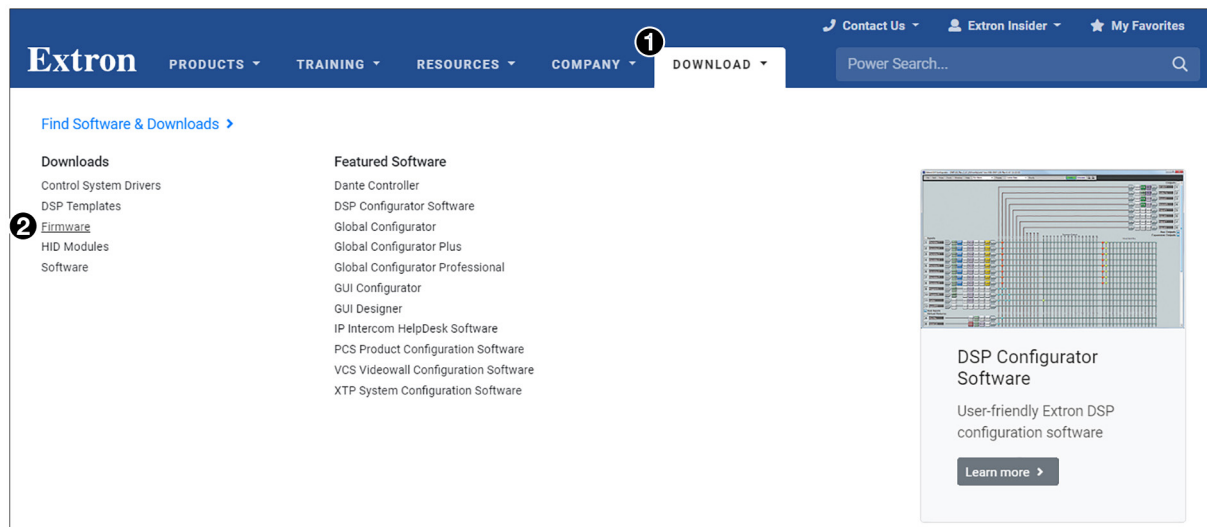

Figure 21. Firmware Link on the Download Tab
1. Go to www.extron.com, hover the mouse pointer over the **Download** tab (see figure 21, ①), then slide the pointer to the Downloads column, and click the **Firmware** link (②).